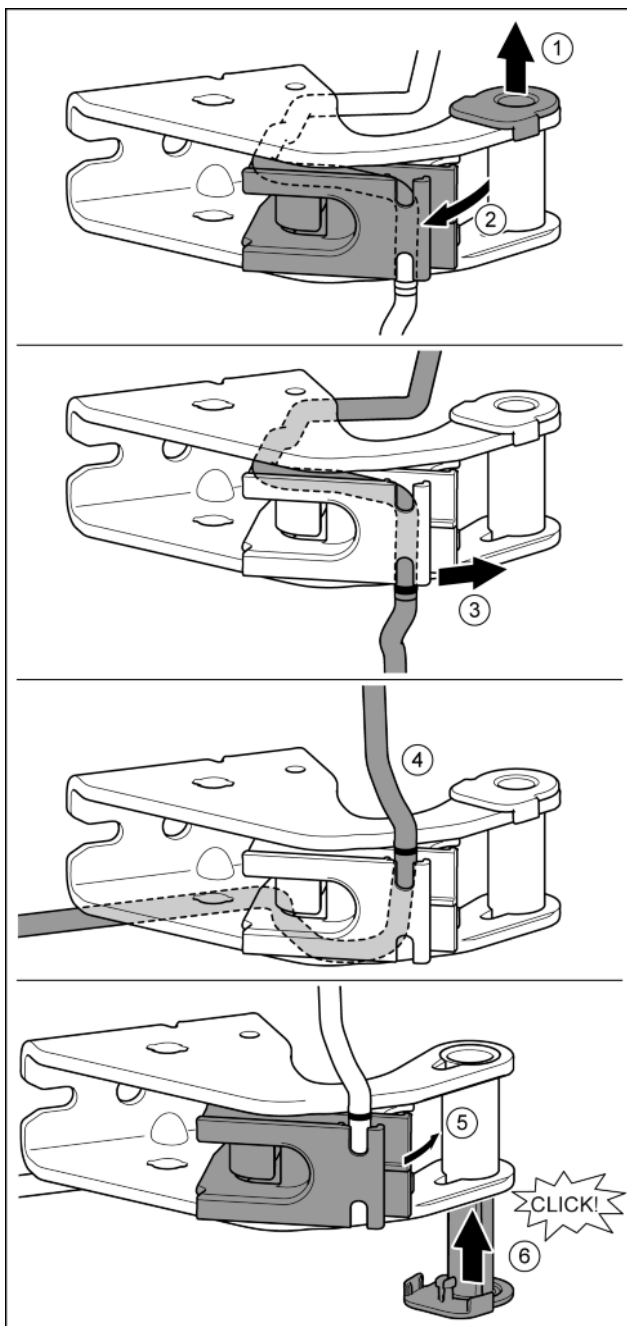

Fig. 25
- Pull the bearing bush out of the guide. Fig. 25 (1)
- Swing the cable bracket out. Fig. 25 (2)
- Remove the cable from the guide. Fig. 25 (3)
- Insert the cable mirror inverted. Fig. 25 (4)
- Swing the cable bracket in. Fig. 25 (5)
- Insert bearing bush from the other side and click into place. Fig. 25 (6)